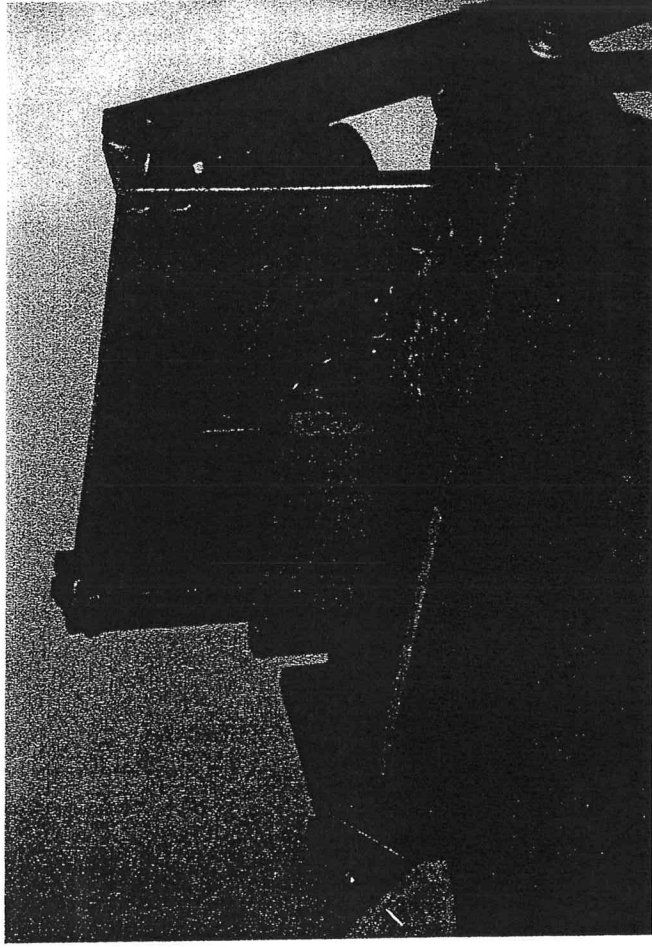

Fig. 18
4. Lower the table 6 1/2 turns. Place piece B on its side against the top plate and cut a socket approximately 1/2" deep. (fig. 18)